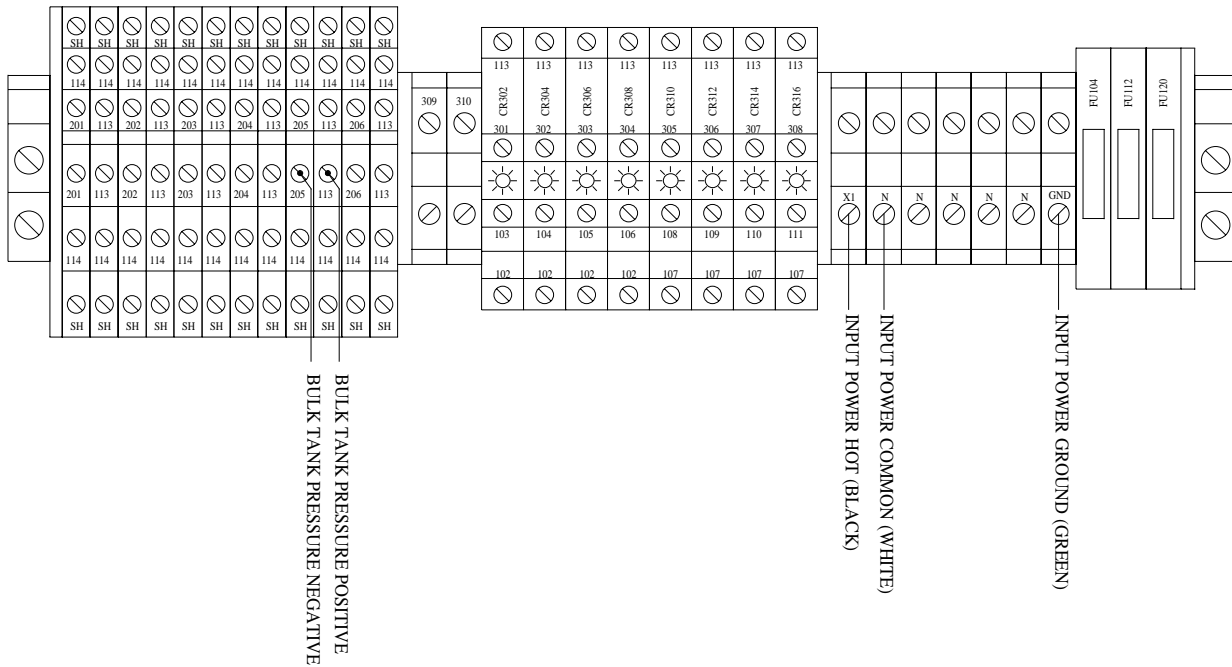

Figure 3 - Field Wiring Diagram
The TRIFECTA . system requires 20 Amperes of current at 110vac. The power should be run into the control box through one of the extra conduit holes provided on the bottom of the control box. For installation convenience, three (3) gray terminals are provided on the bottom right corner of the control panel for power supply hook-up. As Figure 3 indicates, the first of the gray terminals (from the left)² is for the hot (black) wire of the power. The second terminal is for the neutral (white) wire of the power and the last gray terminal is for the ground (green) wire of the 110vac power supply. This is all of the power wiring that is needed. All other power wiring has been completed at the factory.